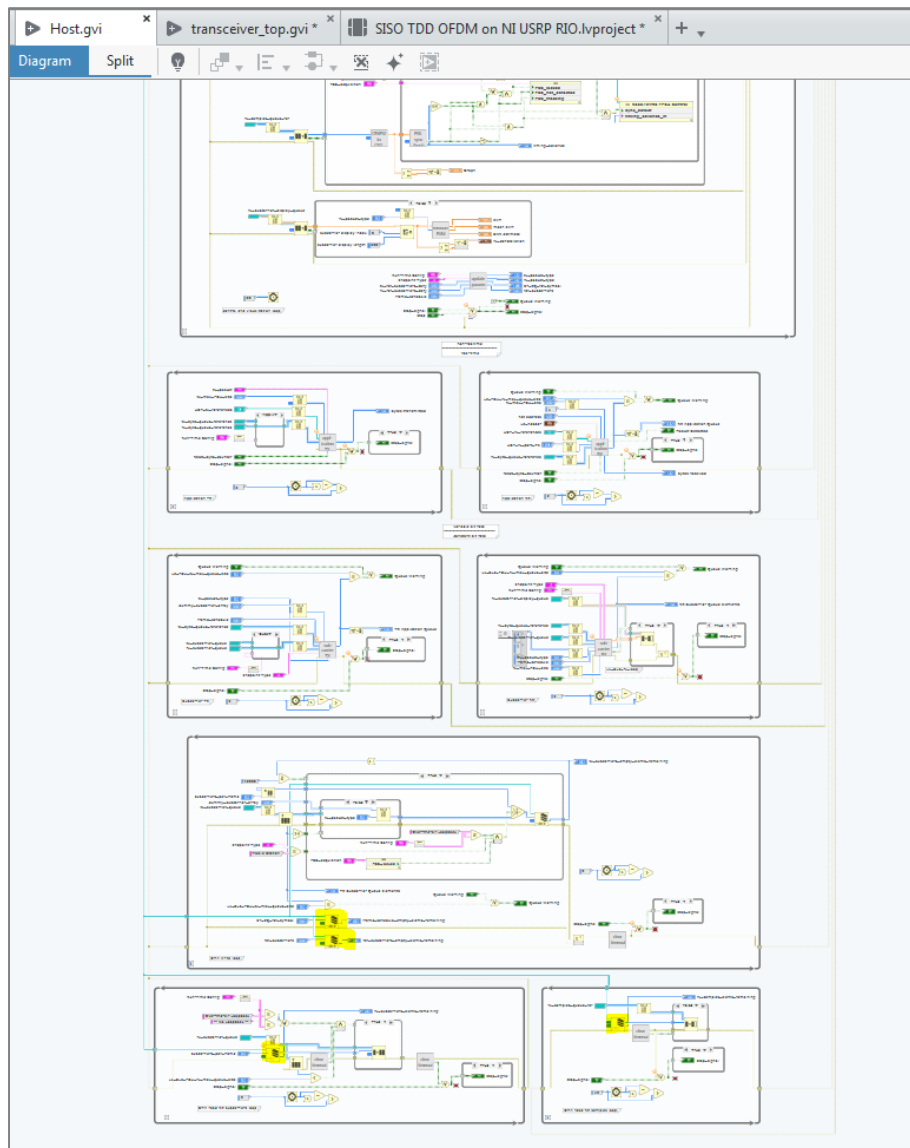

Figure 91: DMA FIFO References
5. In the top-level VI, update all DMA FIFO References to use the new G Resource DMA FIFO Name. They are highlighted in yellow in Figure 91.